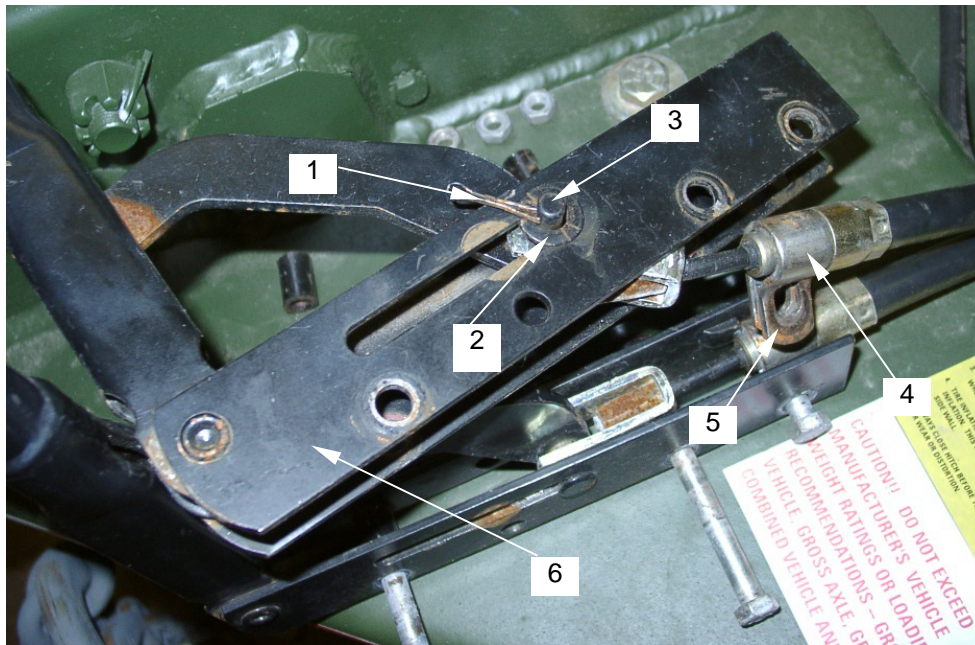

Figure 5. Disconnecting/ Reconnecting Main Brake Cable
3. Remove cotter pin (**figure 5, item 1**), washer (**figure 5, item 2**) and retaining pin (**figure 5, item 3**) from brake handle assembly.
4. Remove cable (**figure 5, item 4**) from handle. Retain cable clamp in place (**figure 5, item 5**).
5. Install cable (**figure 5, item 4**) onto new handle assembly (**figure 5, item 6**) using retaining pin (**figure 5, item 3**), washer (**figure 5, item 2**) and cotter pin (**figure 5, item 1**).